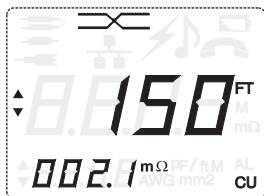

Figure 4
The Set Length function allows the user to change factory default values, ohms per feet coefficients, based on a sample known length of wire. The “**SET LEN**” key serves as a dual function. When depressed normally it will toggle between figure 3 (normal measuring screen) and Set Length mode screen, figure 4. In Set Length mode (line shorted), the unit will measure the resistance of the sample wire. The length of the sample wire can be set adjusted by the UP/DOWN keys in the range of 100 to 200 feet. The smaller digits display the ohms per feet based on the sample wire. Holding the “**SET LEN**” key down for a few seconds will store the new coefficients.
- 2) Depress the “**SET LEN**” (LEN = Length) key, a new screen will pop up (see figure 4). In this mode the “**UP/DOWN**” keys are use to adjust the larger digits to match the length of the sample